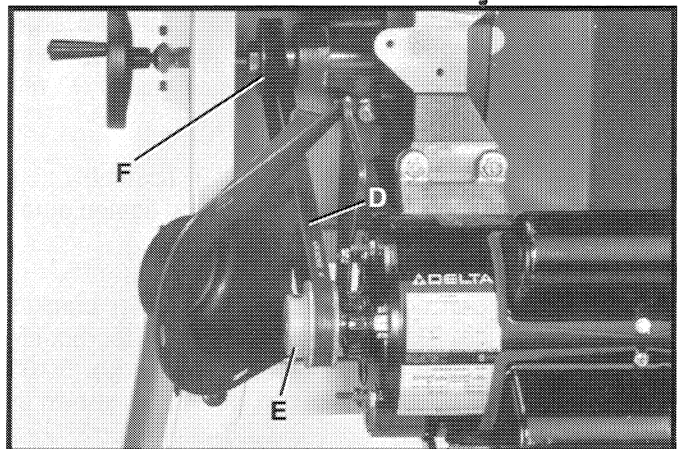

Fig. 18
2. Assemble belt (D) Fig.18, to motor pulley (E) and arbor pulley (F) as shown.